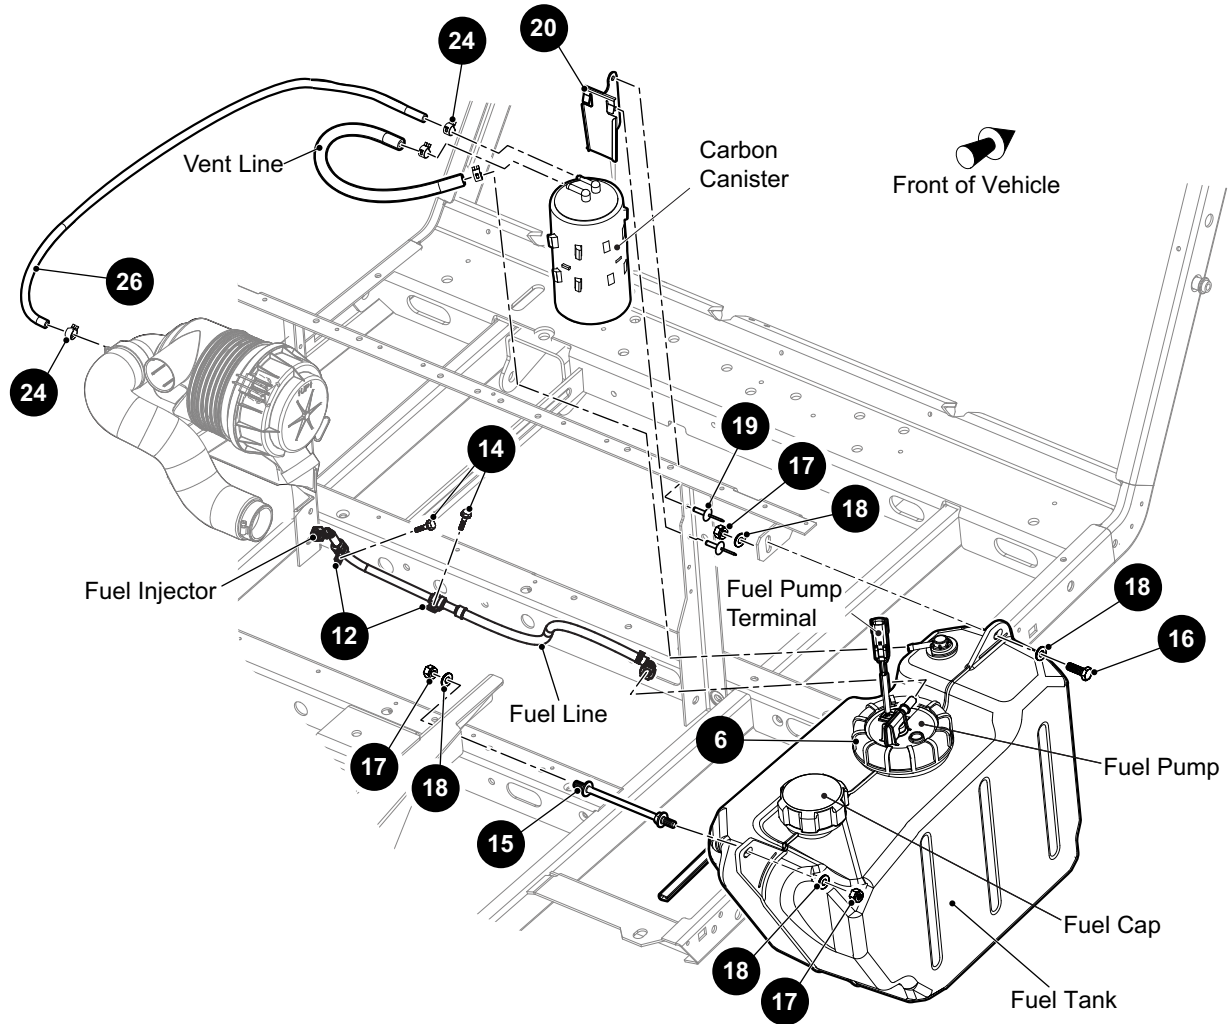
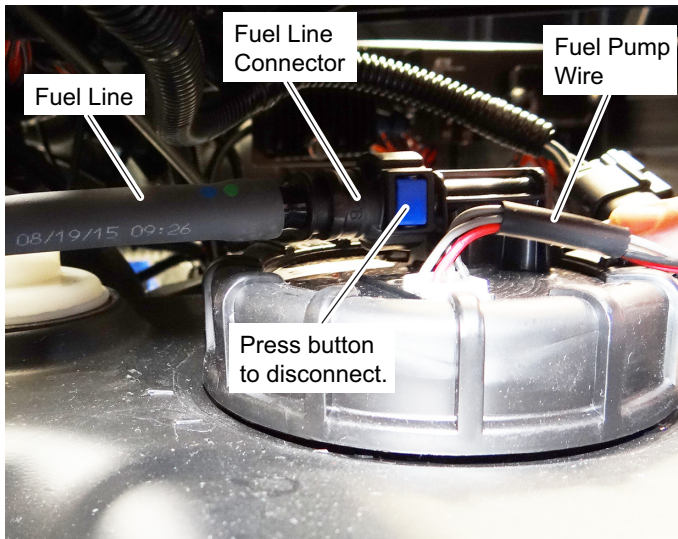

Fig. 1 Fuel System
Fig. 3 Fuel Tank Connections
An electric fuel pump supplies fuel from the fuel tank to the engine injection system through the fuel line (See Fig. 1). The fuel filter is located in the fuel tank along with the fuel pump.
The fuel tank, fuel line, vent line and fuel tank cap should be checked frequently for leaks, clogs or damage (See Fig. 1).
4. Disconnect the fuel line from the tank by pressing the button on the fuel line connector while pulling the connector away from the tank (See Fig. 3). Plug the fuel line to prevent fuel leakage.
5. Disconnect the tube (12) to the carbon cannister.
6. Remove the forward hex nut (17), washers (18), and bolt (16).
7. Remove the rear nut (17), washers (18) and spacer (15).
9. Installation is in reverse order of removal (Ref. Fig. 1).
5. Remove the screw (14) that secures the fuel line to the engine.
- To remove the carbon canister (22), disconnect the EVAP hose (12) from the carbon cannister (22) (Ref. Fig. 1).
- Disconnect the fuel line hose (26) from the carbon canister (22).
- Press the tabs on the mounting bracket (20) and slide the canister upward.
- To install the carbon canister (22), position the canister ears above the mounting bracket (20) and push against the bracket and slide the canister (22) onto the bracket past the tabs.
- Install EVAP hose (12) on the tube closest to the mounting bracket.
- Install the fuel line hose (26) on the remaining tube.